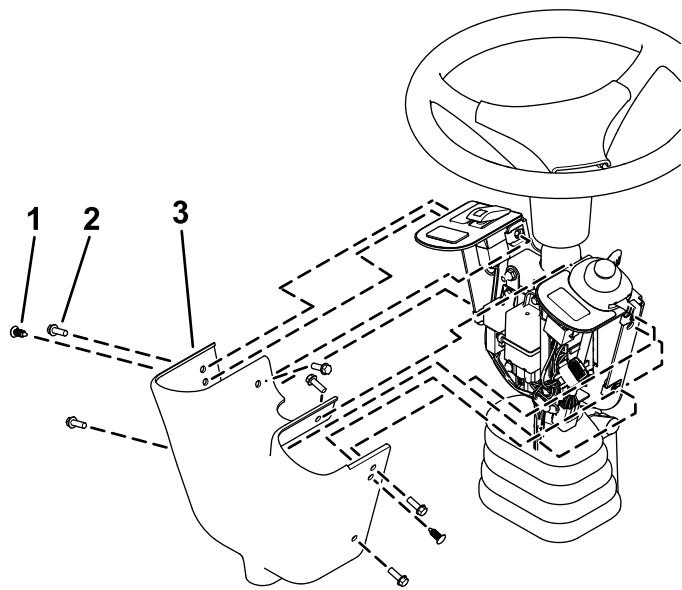

**Figure 9**
- 11. Install the fuse cover to the switch mount using 2 thumb screws and 2 push nuts (Figure 9).
**Note:** Ensure that the push nuts are installed on the inside of the fuse cover (Figure 9).